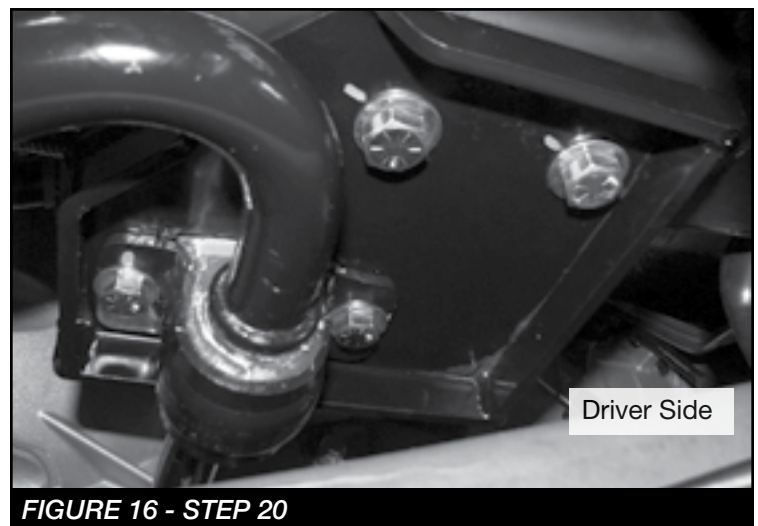
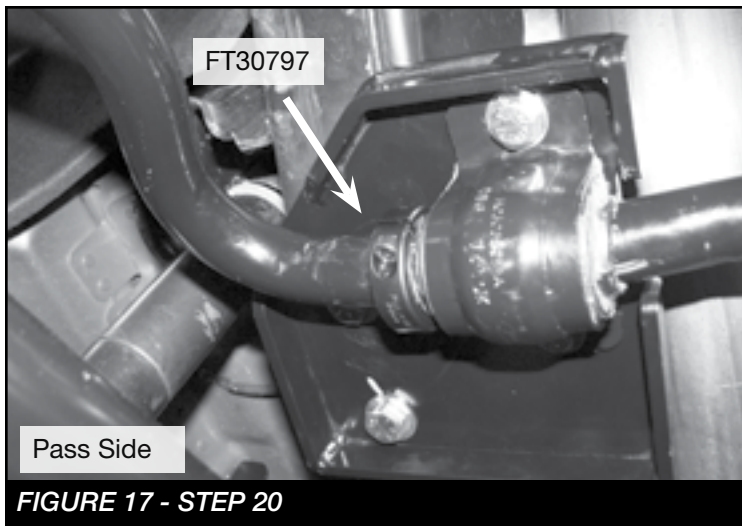

FIGURE 16 - STEP 20
FIGURE 17 - STEP 20
20. Install the factory sway bar to the new brackets using the supplied 7/16" hardware. **NOTE:** The bushing and mount may need to be moved slightly to line the sway bar up centered to the vehicle. **SEE FIGURES 16.** Install FT30797 (clamp) on the passenger side of the sway bar up against the factory bushing to prevent movement. **SEE FIGURE 17**